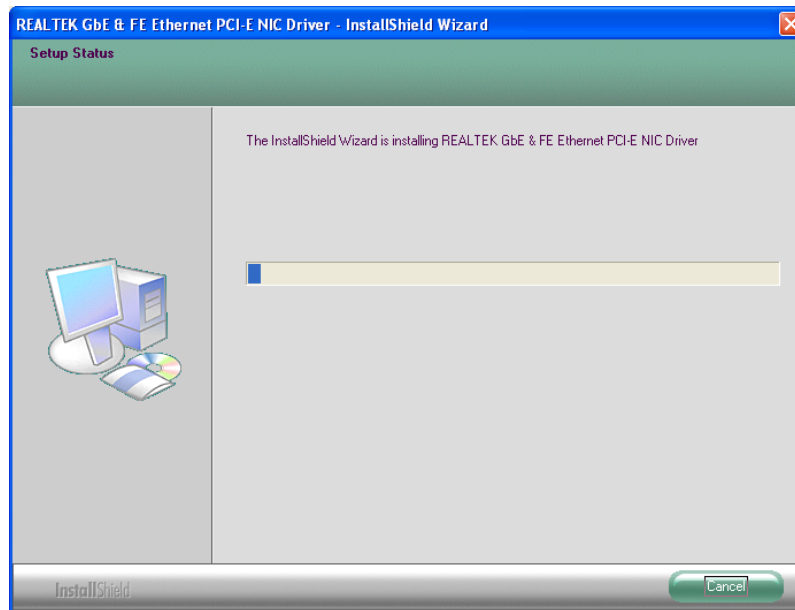

Figure 6-16: LAN Driver Installation
Step 10: The installation progress can be monitored in the progress bar shown in **Figure 6-16**.